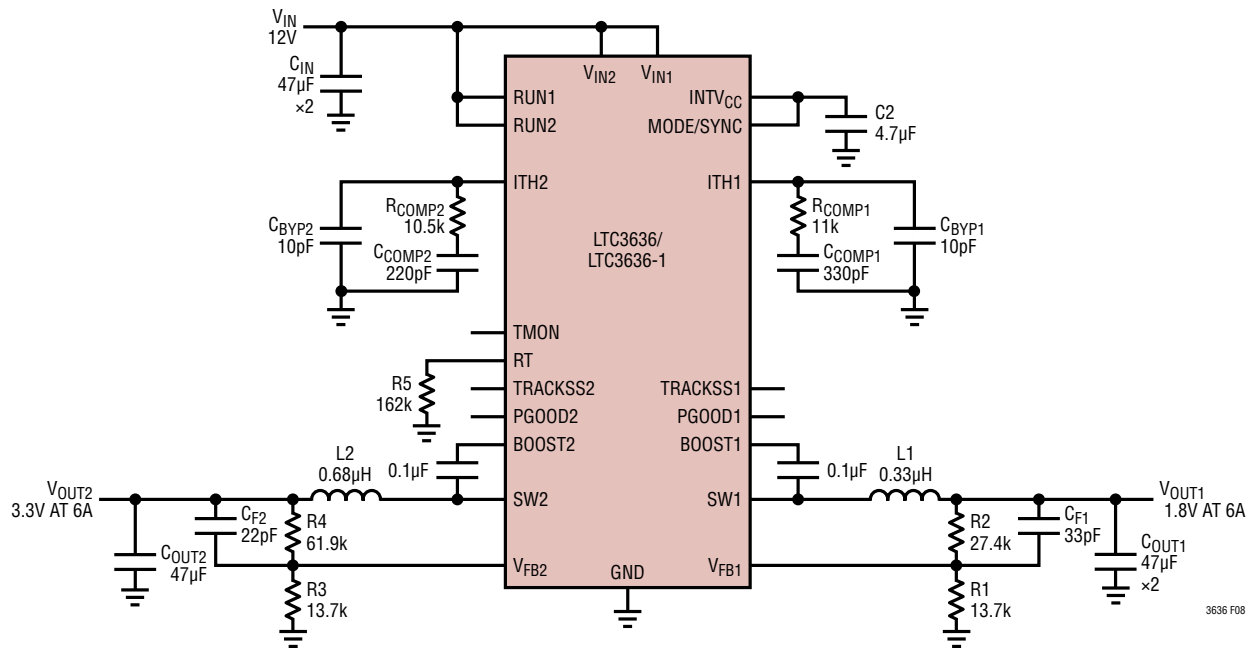

Figure 8. Design Example Circuit
- 3) The resistive divider, (e.g. R1 to R4 in Figure 8) must be connected between the (+) plate of  $C_{OUT}$  and a ground line terminated near GND. The feedback signal  $V_{FB}$  should be routed away from noisy components and traces, such as the SW line, and its trace length should be minimized. Keep R1 and R2 close to the IC.
The final circuit is shown in Figure 8.